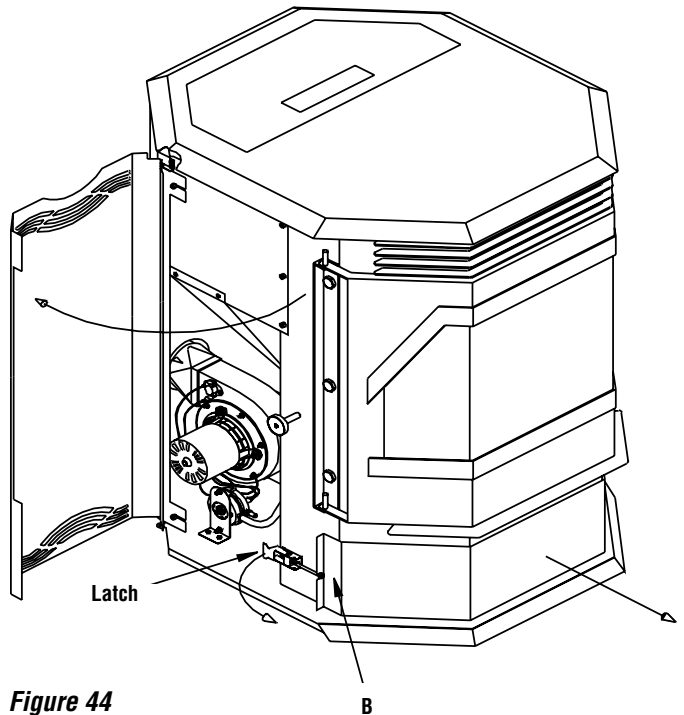
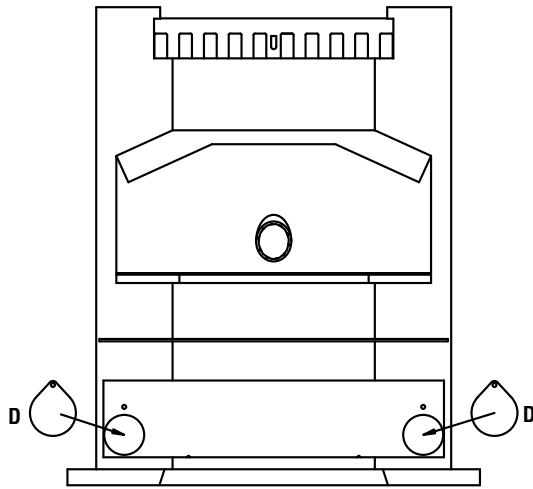

Figure 44
Figure 46A
CAUTION: Do not remove the ash drawer when the stove is hot. To remove the ash drawer, swing open the left and right side doors. Rotate the lever on latch B (see *Figure 44*) out from the stove to release the ash drawer. Do the same with the latch on the right side of the stove. Pull the ash drawer forward and away from the stove.
6. Remove the ash drawer (see **Figures 44**) to locate the lower left and right tear shaped flue passageways (see D in **Figures 46A and 46B**).